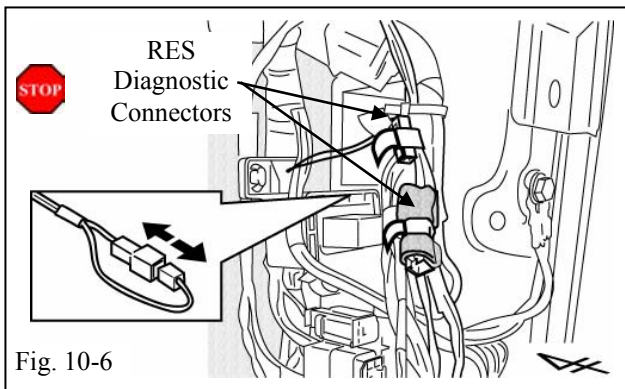

Fig. 10-6
- Disconnect the V4 Harness's White 1P Connectors in the Passengers Side Cowl Area. (Fig. 10-6)